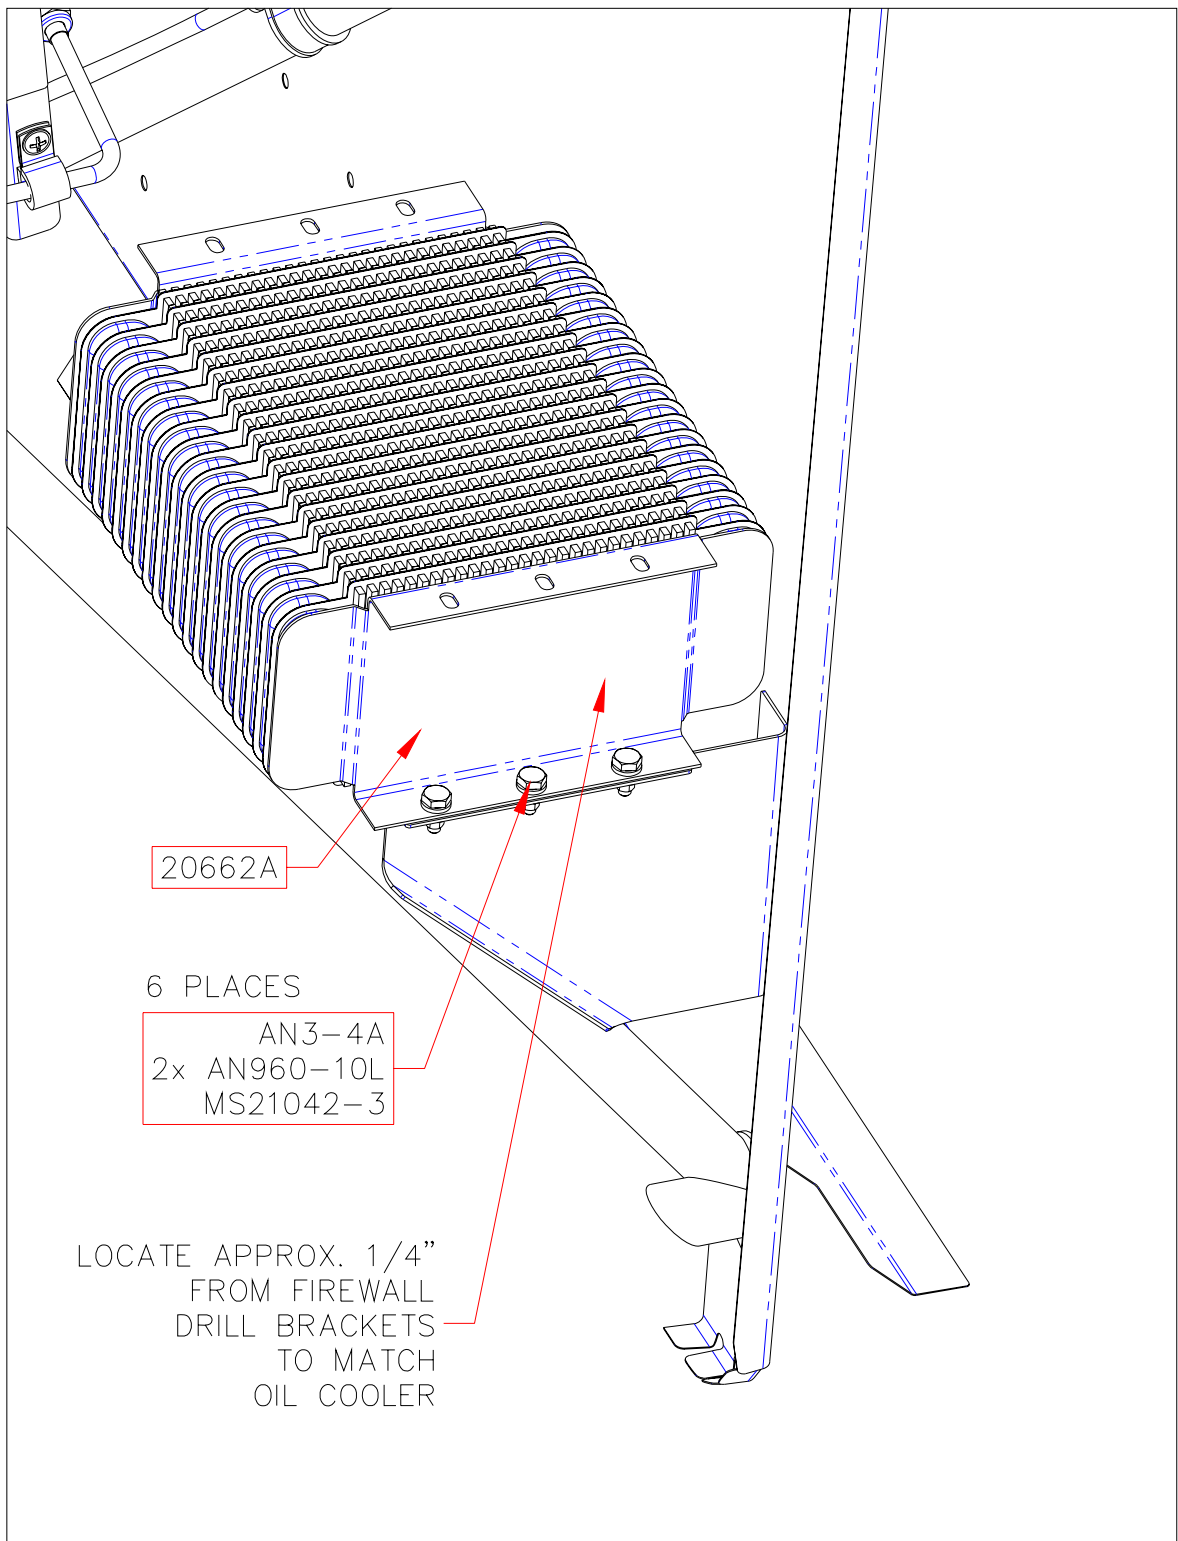

FIGURE 7 OIL COOLER INSTALL
10. Install Oil Cooler, p/n 20662A per Figure 7.